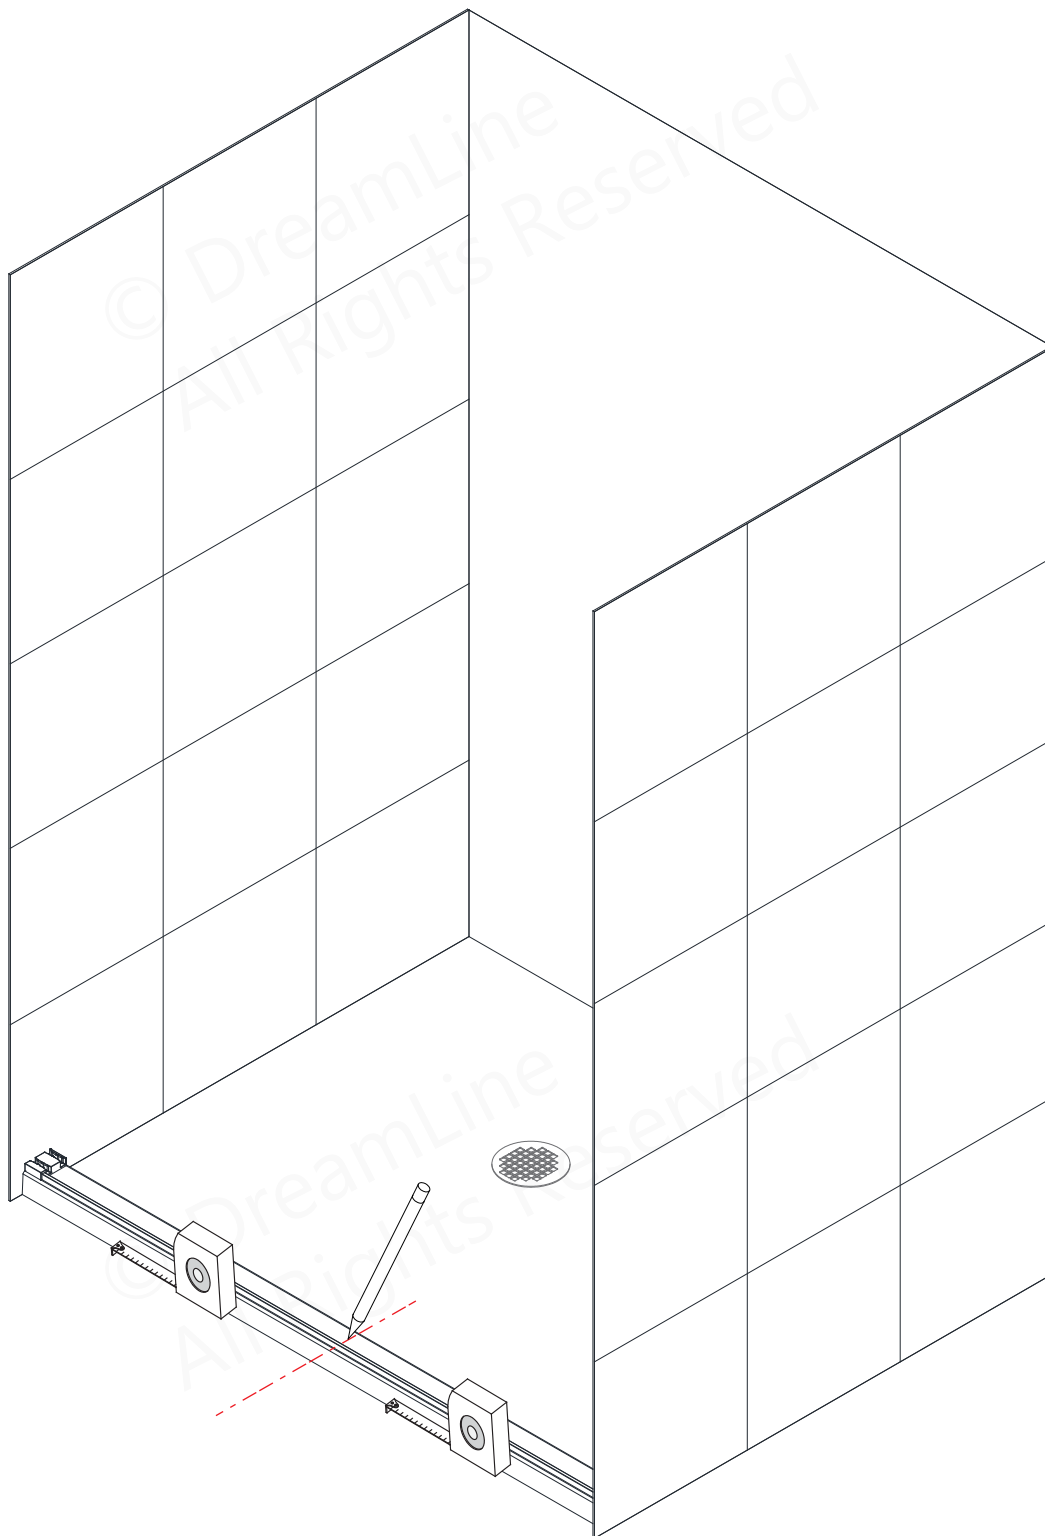

Fig 8
8. Measure across the width of the threshold to locate and mark the center. **(Fig 8)**